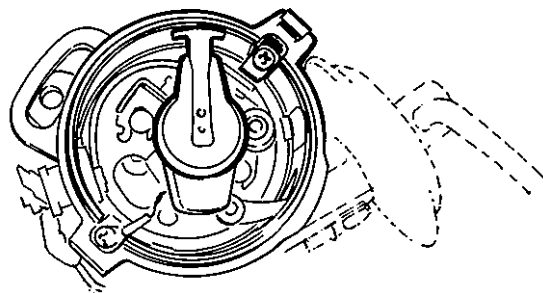

Fig. 8-18-1
- (3) Insert the distributor into the gear case in such a way that the center ⑤ of distributor flange will coincide with the distributor mounting screw hole ⑥ provided in the distributor gear case. When inserting the distributor completely, position of distributor rotor becomes as shown in Fig. 8-18-1. Secure the distributor in place tentatively by making the mounting screw finger-tight, and adjust the ignition timing.